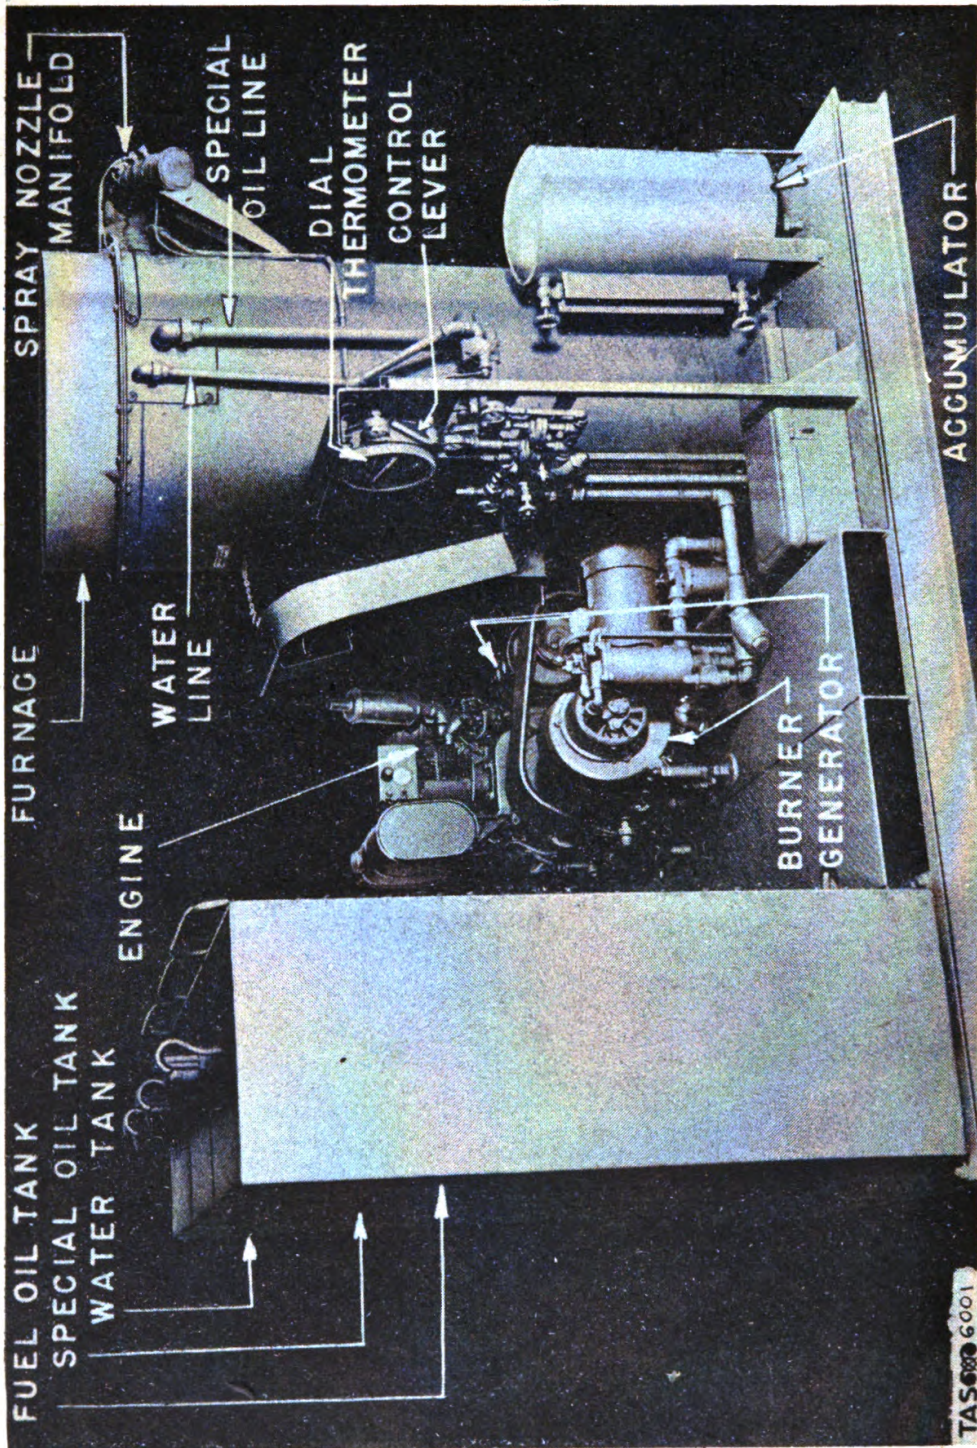

Fig. 1. The Mechanical Smoke Generator, MI (100-Gallon).
1. **PURPOSE AND SCOPE.** This manual describes the mechanical smoke generator, M1, (100-gallon), its operation, maintenance, and repair by using personnel or by the smoke generator company. (See fig. 1.)